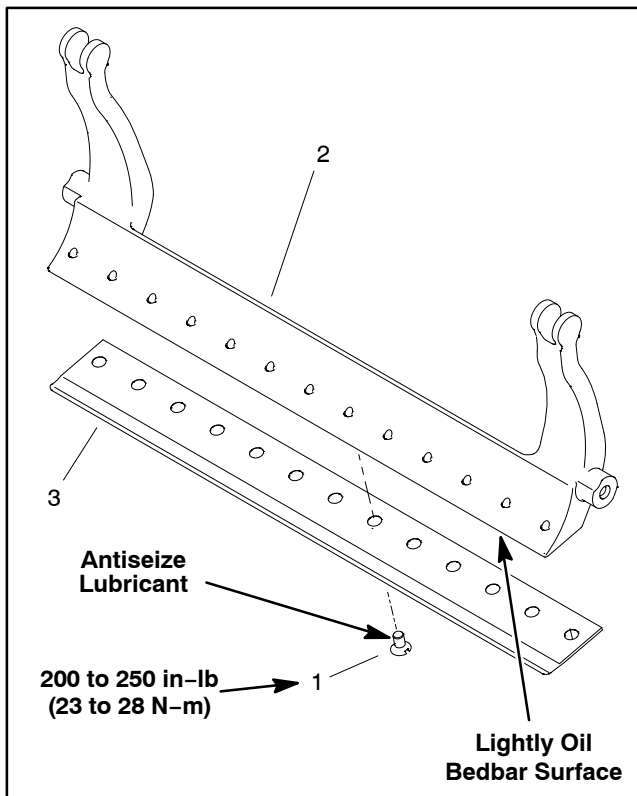

Figure 19
2. Remove screws from bedbar using a socket wrench and bedknife screw tool (see Special Tools in this chapter). Discard screws. Remove bedknife from the bedbar (Fig. 19).